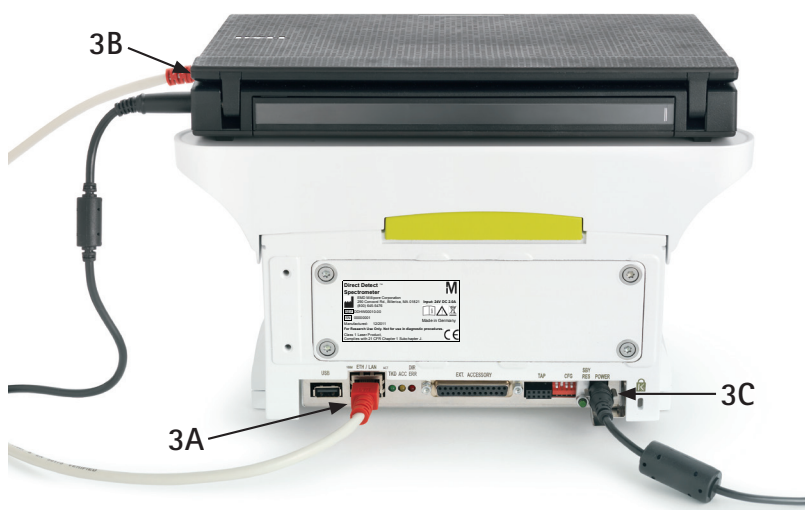

Figure 3. Rear side – Connection ports
6.5.1 Positioning and Connecting Components (Figure 3)
3. Turn the instrument/computer assembly so that the rear of the instrument is facing you (Figure 3).